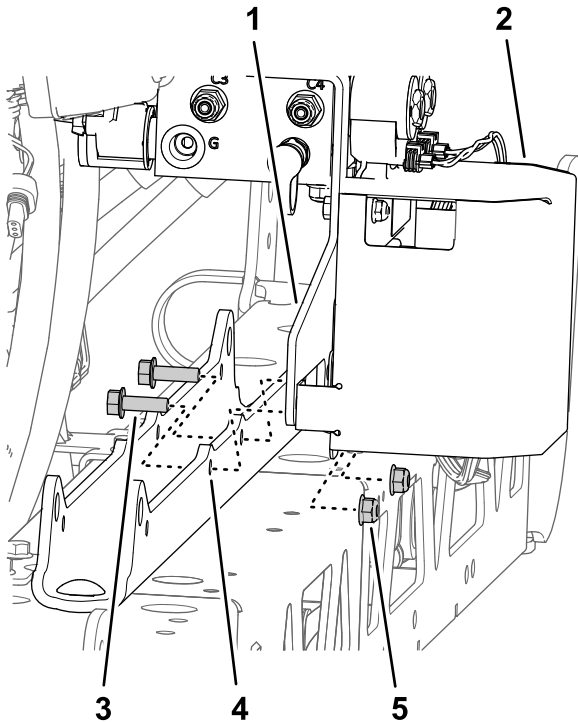

Figure 97
- B. Assemble the support bracket and TEC bracket to the cylinder mount (Figure 97) with the 2 flange-head bolt (5/16 x 1 inch) and flange locknut (5/16 inch) that you removed in step 1 of Removing the Section-Lift Manifold from the Center-Spray Section (page 26).